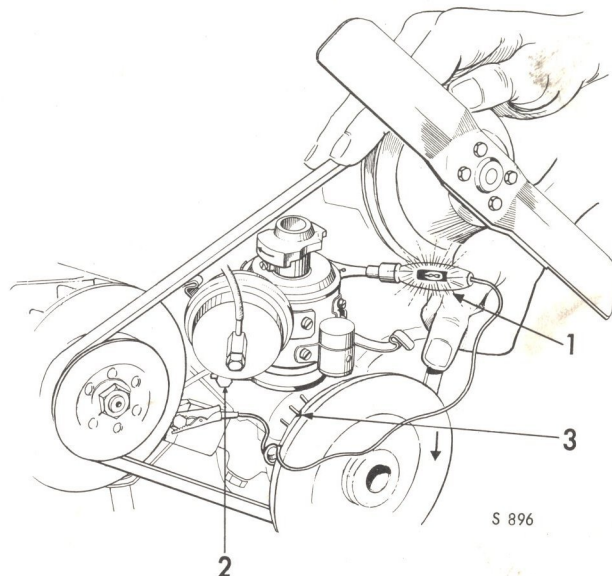

Figure 24. Adjustment of the basic timing
5. Slacken screw, 2 in Figure 24, and rotate the distributor until the test lamp lights, i. e. until the breaker points open. Be sure that the advance regulator weights are constantly retracted, by keeping the rotor in a counter-clockwise position.